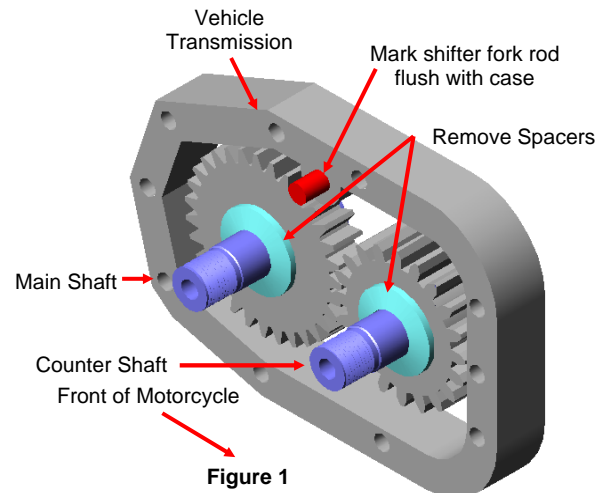

Figure 1
- 3.1 Locate the shifter fork rod, mark fork rod flush at transmission case and pull out 1/4". Figure 1
3.3 **Important:** Remove stock spacers from main and counter shafts. Spray with silicon remover (Brake-Clean) then, using supplied cleaning pad, clean shafts, new counter and main shaft gears and tapered lock rings (inside and outside) Figure 1